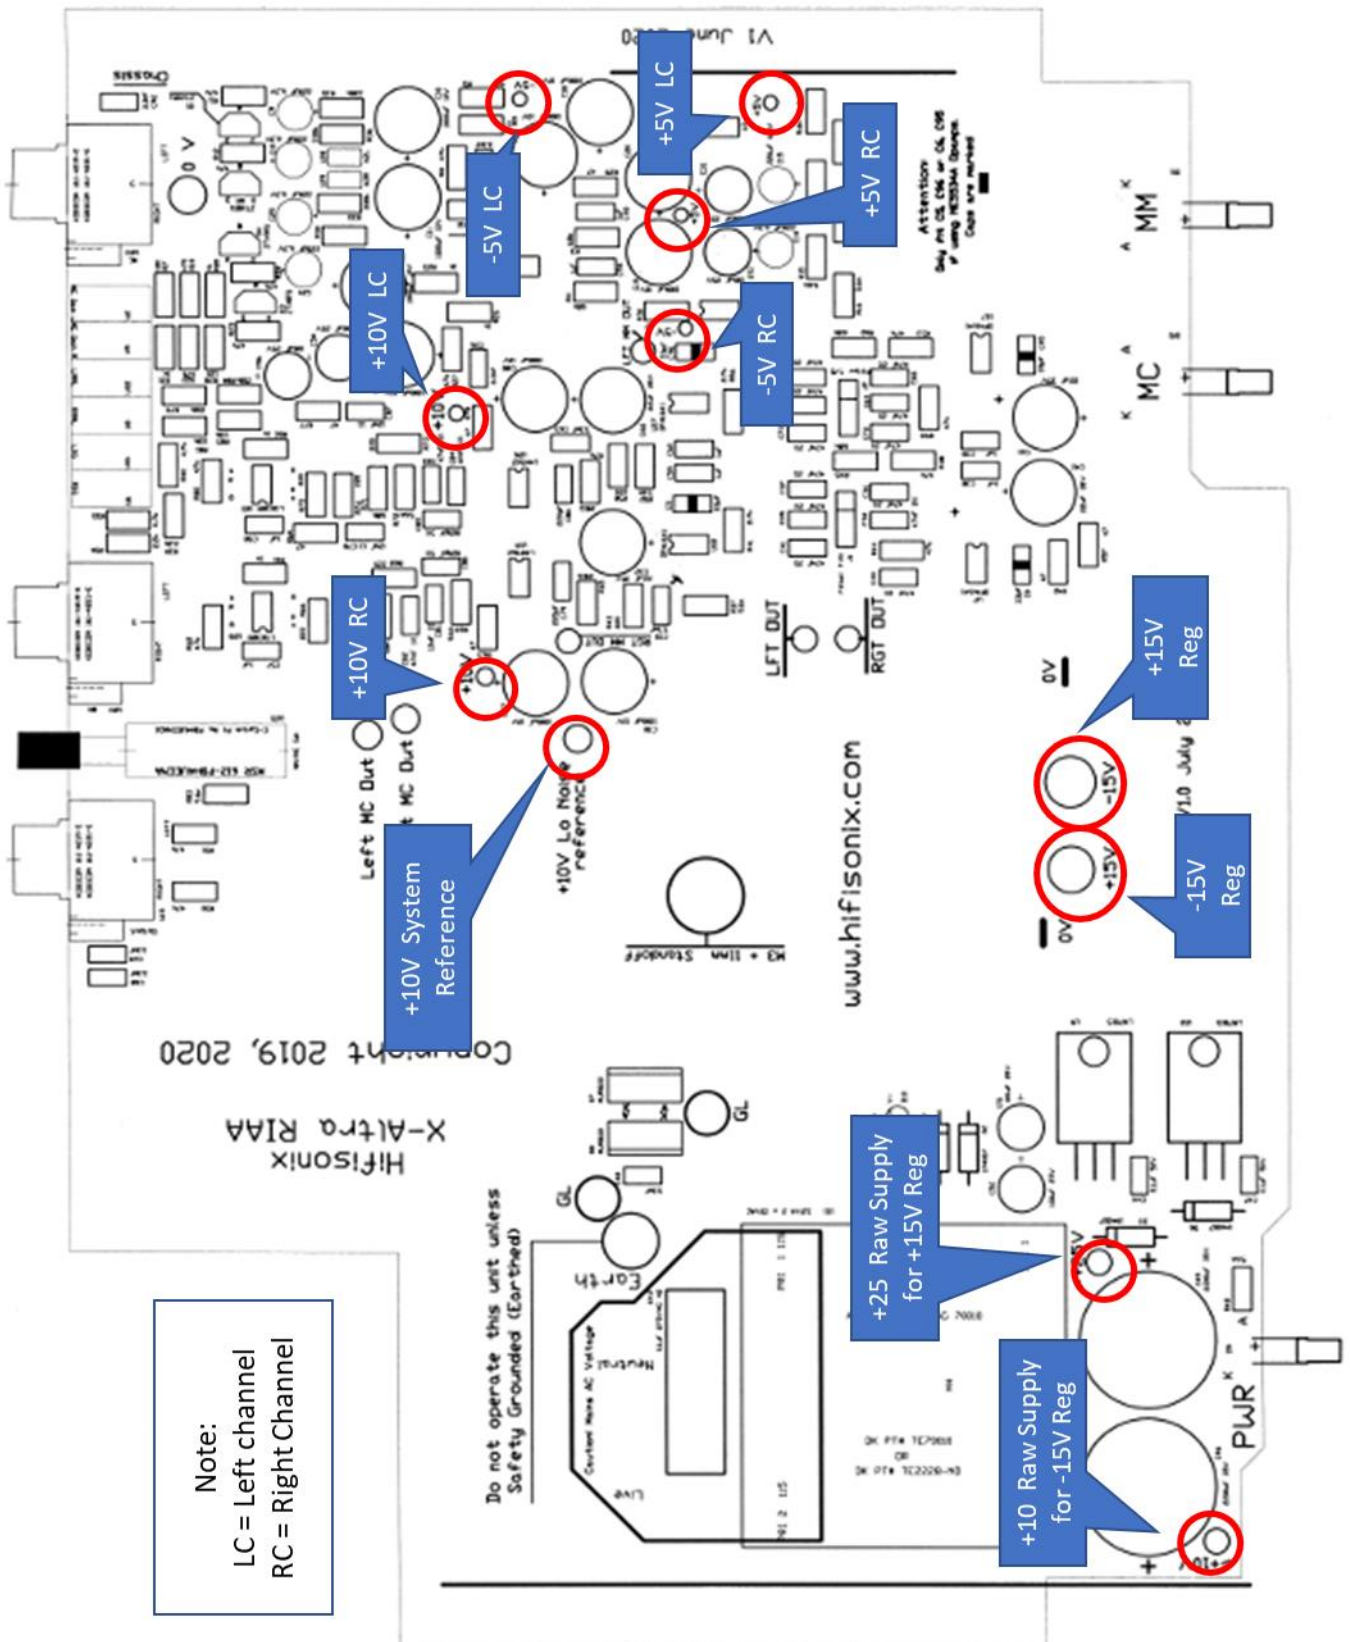

Figure 1 - General Layout Showing Location of Test Points
12. Refer to Fig. 1 of this document for the location of the test voltages. Use the meter to check that the +-15V supply is within +-100mV